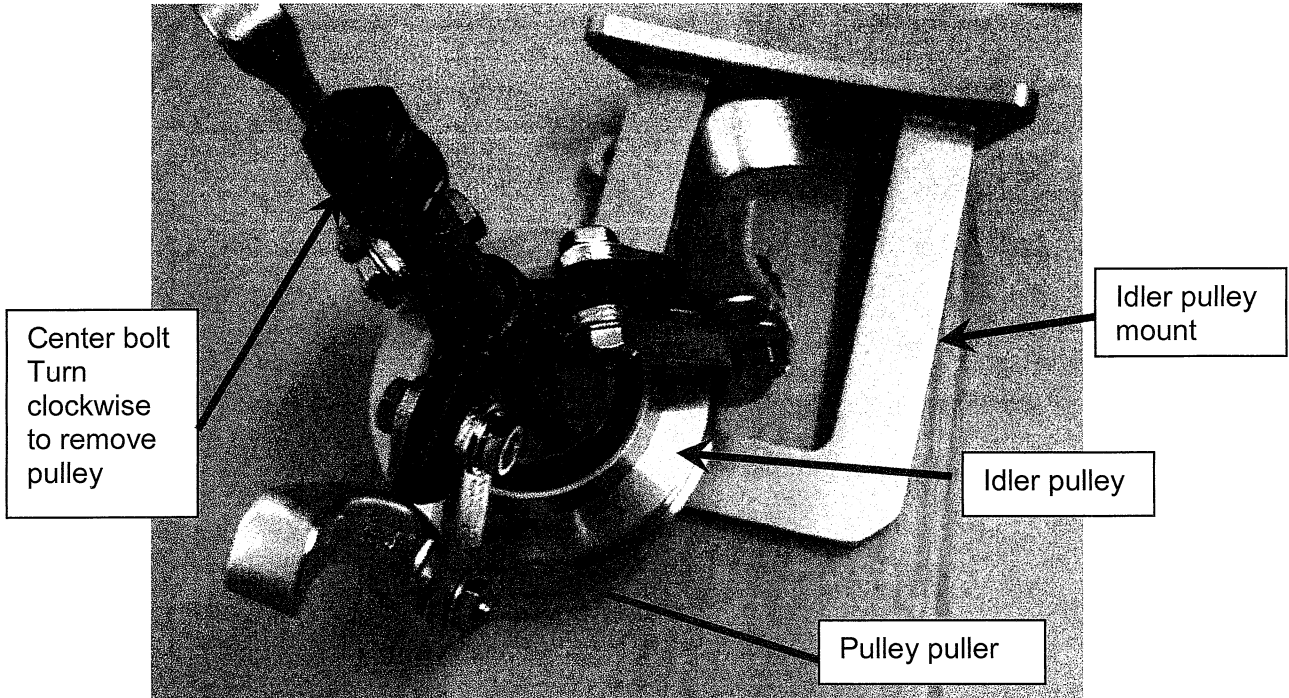

Figure 1.8
12. Using a pulley puller carefully remove the 427EC-3500-18 Idler Pulley from the 427EC-3004-2 Idler Mount shaft and discard 427EC-3500-18 Idler Pulley. (See figure 1.8)